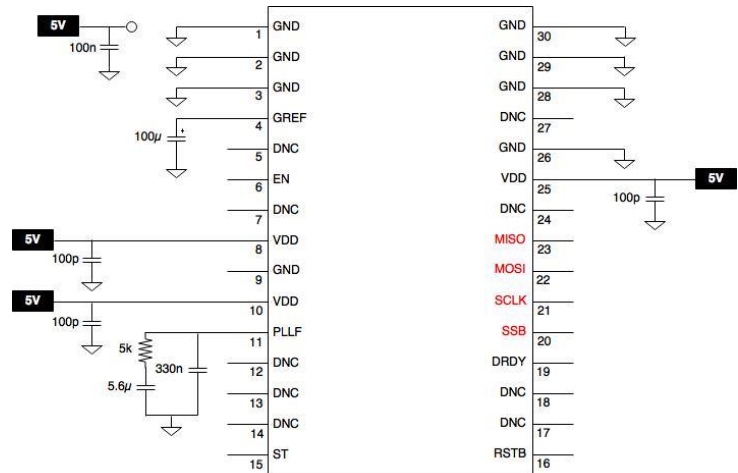

Figure 15: Recommended Application Schematic (top view)
- All capacitances of Figure 15 should be placed as close as possible to their corresponding pins, except the 100nF capacitance between VDD and GND, which should be as close as possible to the board's supply input.